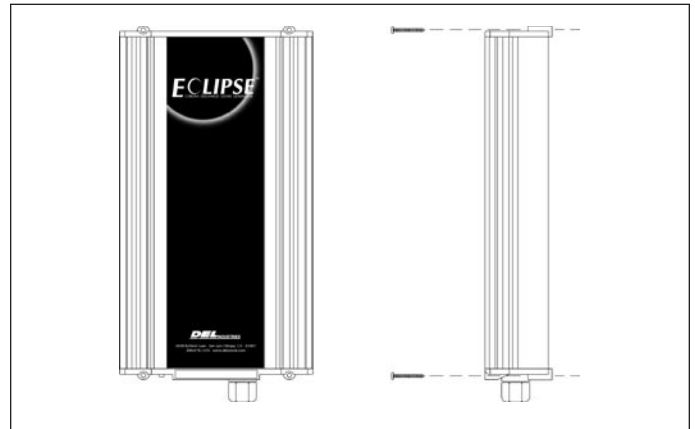

Figure 1 Wall Mount
- A pressure wire connector is provided on the outside of the unit to permit connection to a minimum No. 8 AWG (8.4 mm2) solid bonding conductor between this point and any metal equipment, metal enclosures of electrical equipment, metal water pipes, or conduit within five (5) feet (1.5m) of the unit as needed to comply with local requirements.
- Install at least 5 feet (1.5 meters) from wall of pool water using nonmetallic tubing. Install ozone generator no less than one (1) foot above maximum water level to prevent water from contacting electrical equipment. Install in accordance with the installation instructions.
- The Eclipse™ must be installed in an outdoor location, or indoors in a forced air ventilated room, and installed so that the orientation is exactly as shown in Figure 1. Install to provide water drainage of generator to protect electrical components.
The Eclipse™ units are designed for wall mounting. **See Figure 1.** Mount generator in a clean, protected area, either indoors or outdoors. Locate generator out of reach of sprinklers or drainage spouts. Allow sufficient access for maintenance and all tubing and electrical wires. Ozone generator must be installed no less than one foot above the maximum water level. **Note:** Injector manifold needs to be installed after all other equipment or possible failure may occur.
1. Refer to Figure 1 to mark the locations for the four mounting screws.